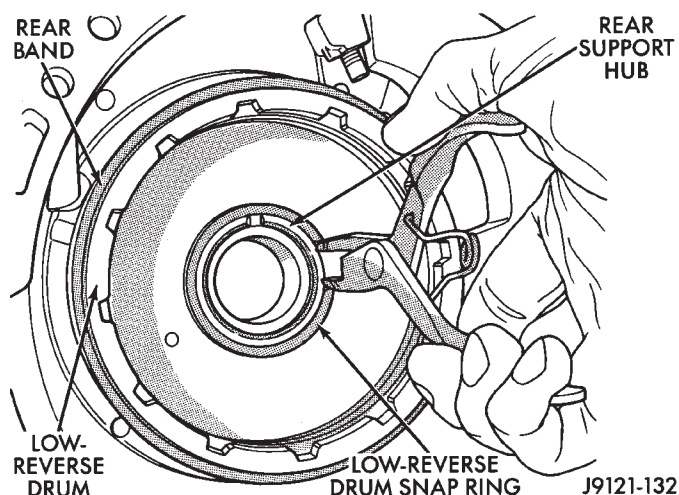

Fig. 22 Removing Low-Reverse Drum Snap Ring
(34) Loosen rear band adjusting screw until band is fully released and does not grip low reverse drum.
(35) Remove snap ring that secures low-reverse drum to rear support (Fig. 22).
(36) Remove rear band lever pins as follows: